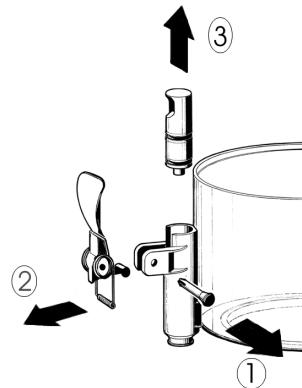

figure 1
- 3 Dismantle the faucet following the sequence shown (see fig. 1)
- 3 Reassemble the faucet assembly on the container in the opposite way to which it was dismantled (see fig. 1).